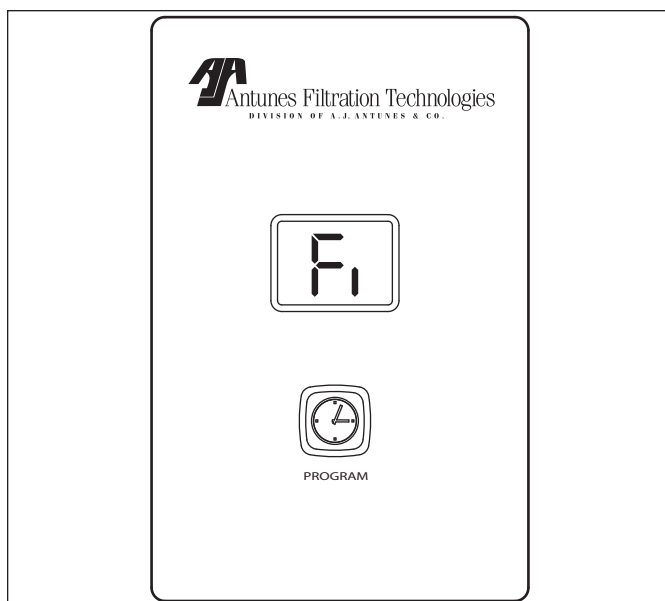

Figure 5. LED Display, Front Panel
1. When Fi (Figure 5) is displayed, press and release the Program button to view current setting .
2. To make a change, press and hold the Program button to scroll through settings - release the button at desired setting (Figure 5).